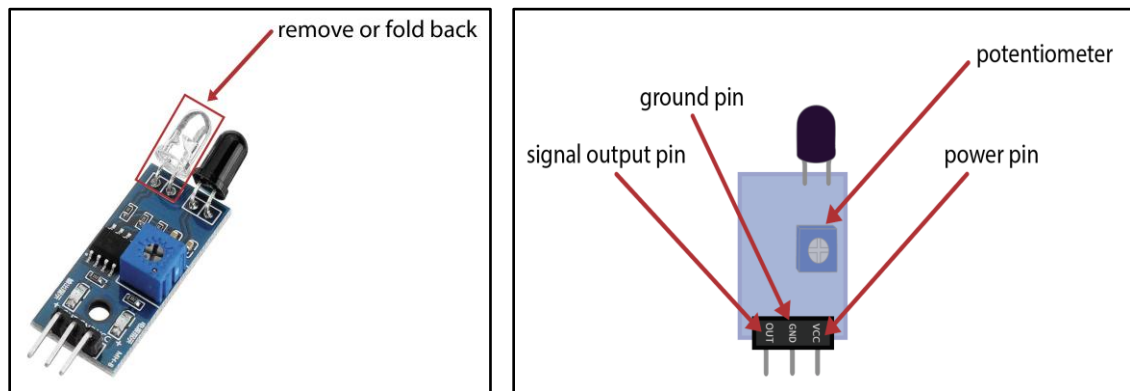

Figure 1. IR photodiodes.
- a. Have 9 photodiodes at hand. Remove or fold back the clear LED from the photodiodes (**Fig. 1**; these LEDs will not be used in RetlNaBox). These photodiodes will be powered with a constant 3.3V from the Raspberry Pi, and the Raspberry Pi will also independently read the output signal from each photodiode (i.e. whether the photodiode is detecting light or not). Each photodiode board contains a potentiometer, which will be used to adjust light sensitivity (outlined below).